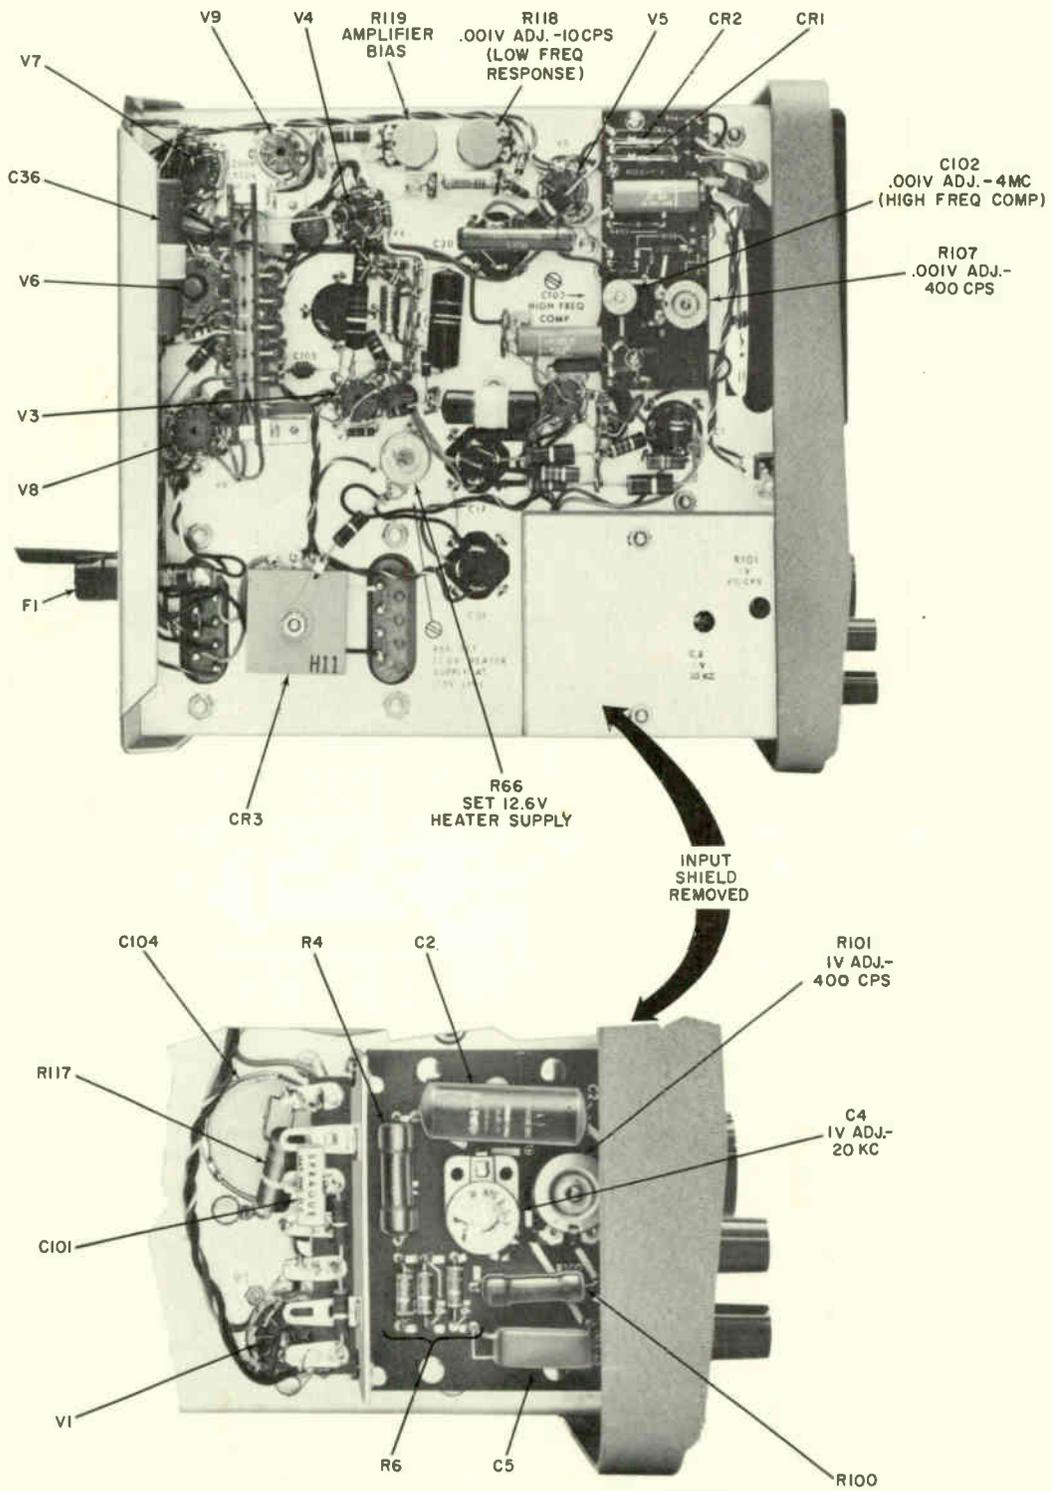

Figure 5-3. Left Side View of Voltmeter Chassis
switch assembly. Use the following procedure. (Locate parts by referring to figures 5-3 and 5-4; RANGE switch connections are shown in figure 5-9.)
d. To test the .001 volt range, set the voltmeter calibrator MULTIPLIER switch to .001 and the voltmeter RANGE switch to .001. If necessary, adjust R107 (figure 5-3) to obtain a reading of exactly 1 on the 0 to 1 VOLTS scale on the panel meter of the voltmeter under test. This sets the gain of the amplifier at audio frequencies.
e. Set the RANGE switch on the voltmeter to the 1-volt range. Set the voltmeter calibrator MULTIPLIER switch to 1, to test this range. If necessary, adjust R101 (figure 5-3) to obtain a reading of exactly 1 volt on the voltmeter. This sets the division ratio of the input voltage divider at audio frequencies.
l. If necessary adjust C102 (figure 5-3) to obtain a reading at 0.9 on the voltmeter under test. This sets amplifier gain at video frequencies.
r. On the 1-volt range of the voltmeter, measure frequency response at both 20 kc and 4 mc using a procedure similar to steps g through k. At 20 kc if necessary adjust C4 (figure 5-3) to obtain a reading of 0.9 on the voltmeter. At 4 mc if necessary pad the value of R6 (figure 5-3) to obtain a reading between 0.85 and 0.95 ($\pm 5\%$). R6 consists of several resistors connected in parallel. Increasing the value of one of these resistors raises the meter reading at 4 mc. The input shield **must** be in place on the voltmeter chassis when making this reading.